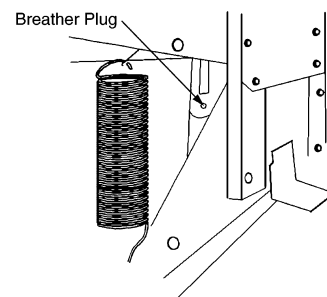

Figure 27 - Lubricating the 5" Cylinder
3. Remove the white breather plug on the cylinder and add 1/2 ounce of 10W-30 motor oil with a funnel or long spout oil can (figure 27).